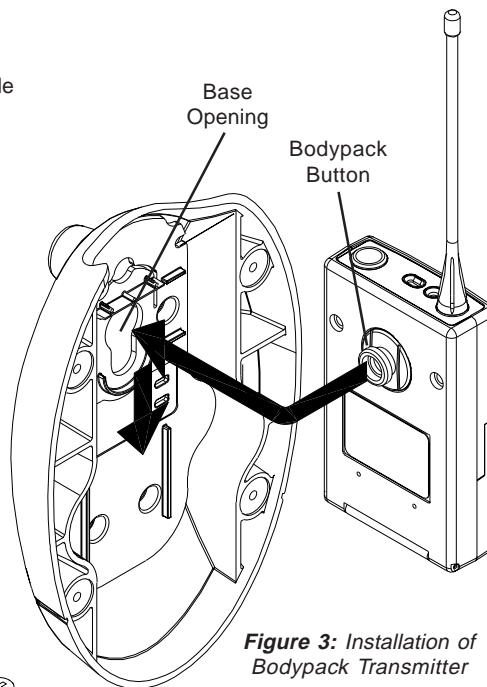

Figure 3: Installation of Bodypack Transmitter
- Insert bodypack into Satellite (see figure 3). “Bodypack” button inserts into opening on bottom plate. Push bodypack into plate, and slide down as shown.